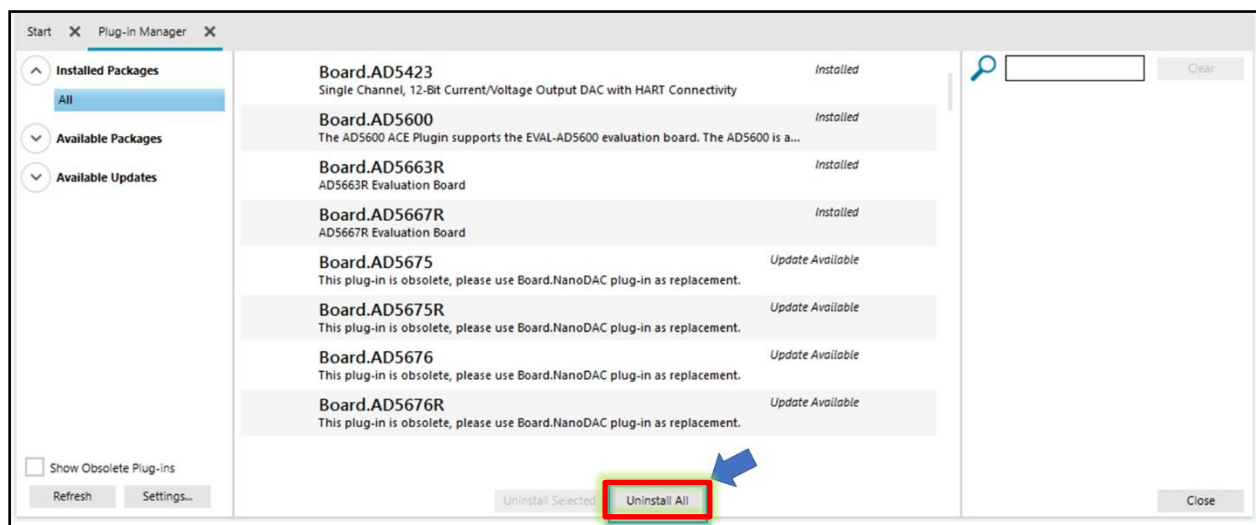

Figure 5
3. Select the "Load EEPROM content from file" option and navigate to the local folder where the AD5686R.dat file is located and then select it. The main window will update to reflect the contents of the file. **Please verify that the "EEPROM address" and other entries on the forms match those displayed in Figure 5.**